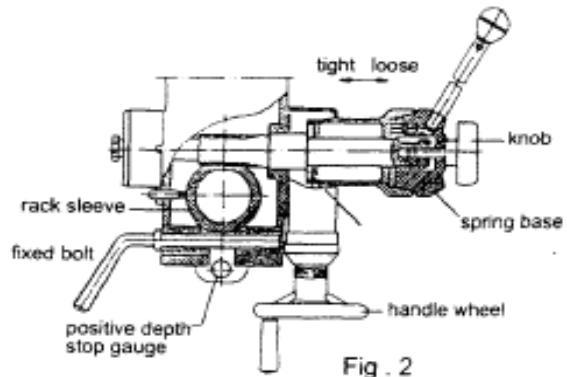

Fig. 2
(2) Preparing for milling(see fig.2)(Except addition power feed system)